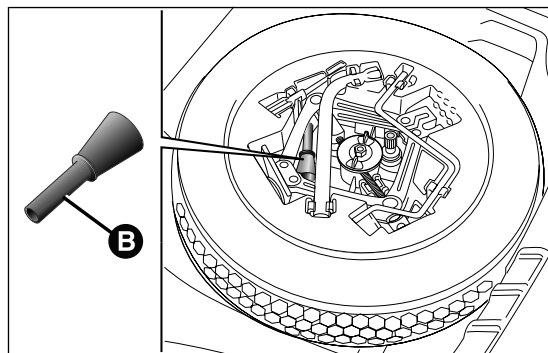
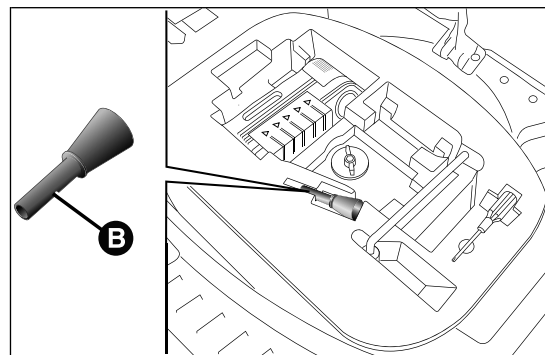

fig. 80
fig. 81
- ☐ open the luggage compartment and take adapter B located in the tool box (versions equipped with space-saver wheel - for versions/markets, where provided) fig. 80 or in the Fix&Go Automatic container (versions equipped with Fix&Go Automatic) fig. 81;